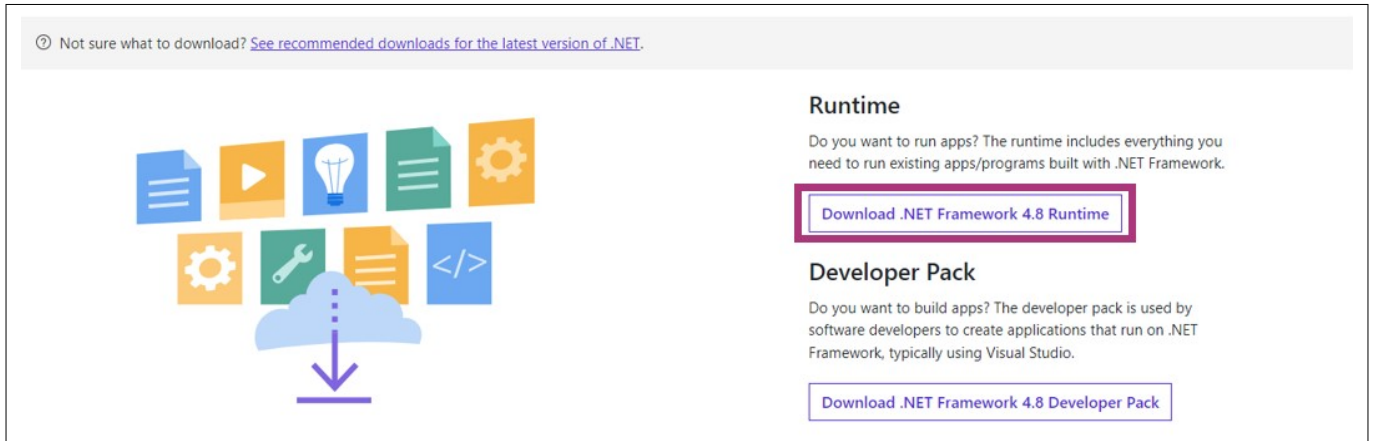

Figure 20 .NET Framework 4.8 download instruction – download portal
- 1. The GUI requires at least .NET Framework 4.7.2. The .NET Framework 4.8 can be installed from here. Download this version and follow the instructions. See Figure 20